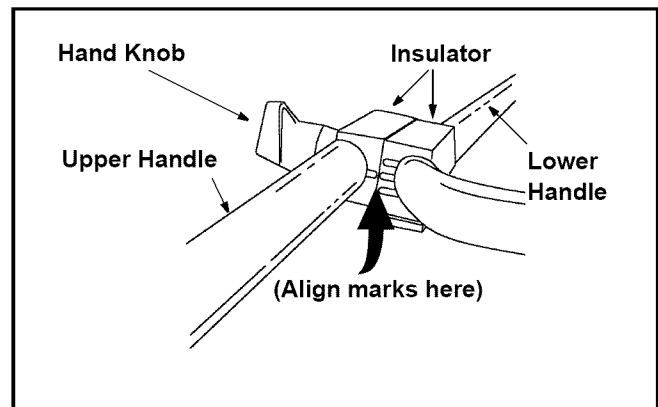

Figure 3
- The upper handle may be adjusted to three different height positions. To adjust the handle at the desired position, align one of the three marks on the top of the lower handle insulators with the mark on the upper handle insulators. See Figure 3.
- The upper handle may be adjusted to three different height positions. To adjust the handle at the desired position, align one of the three marks on the top of the lower handle insulators with the mark on the upper handle insulators. Refer to Figure 3.